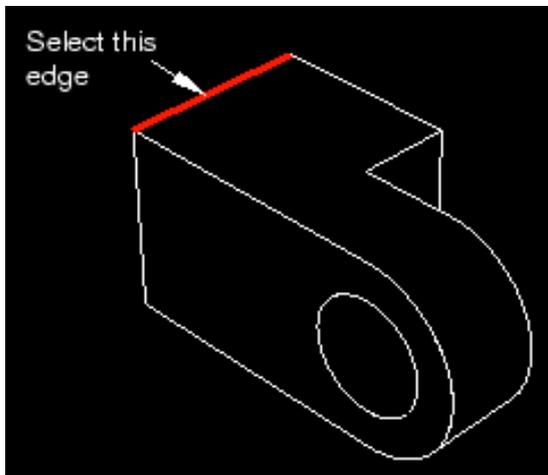

Figure C-17 Select the indicated edge to position the part correctly in the Sketcher grid.
3. Select the top rear edge of the cube as the edge that will appear vertical and on the right side of the sketch, as shown in Figure C-17.